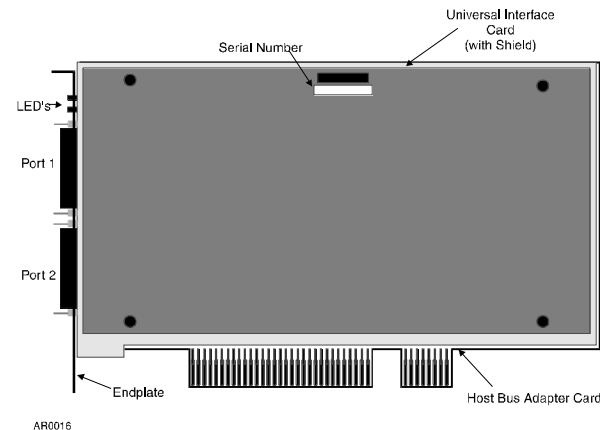

Figure 1: SYNC/570i and Universal Interface Card
- Record the adapter's serial number (located under the part number label as shown in Figure 1), which will enable Digi to provide you with better service, should the need arise.